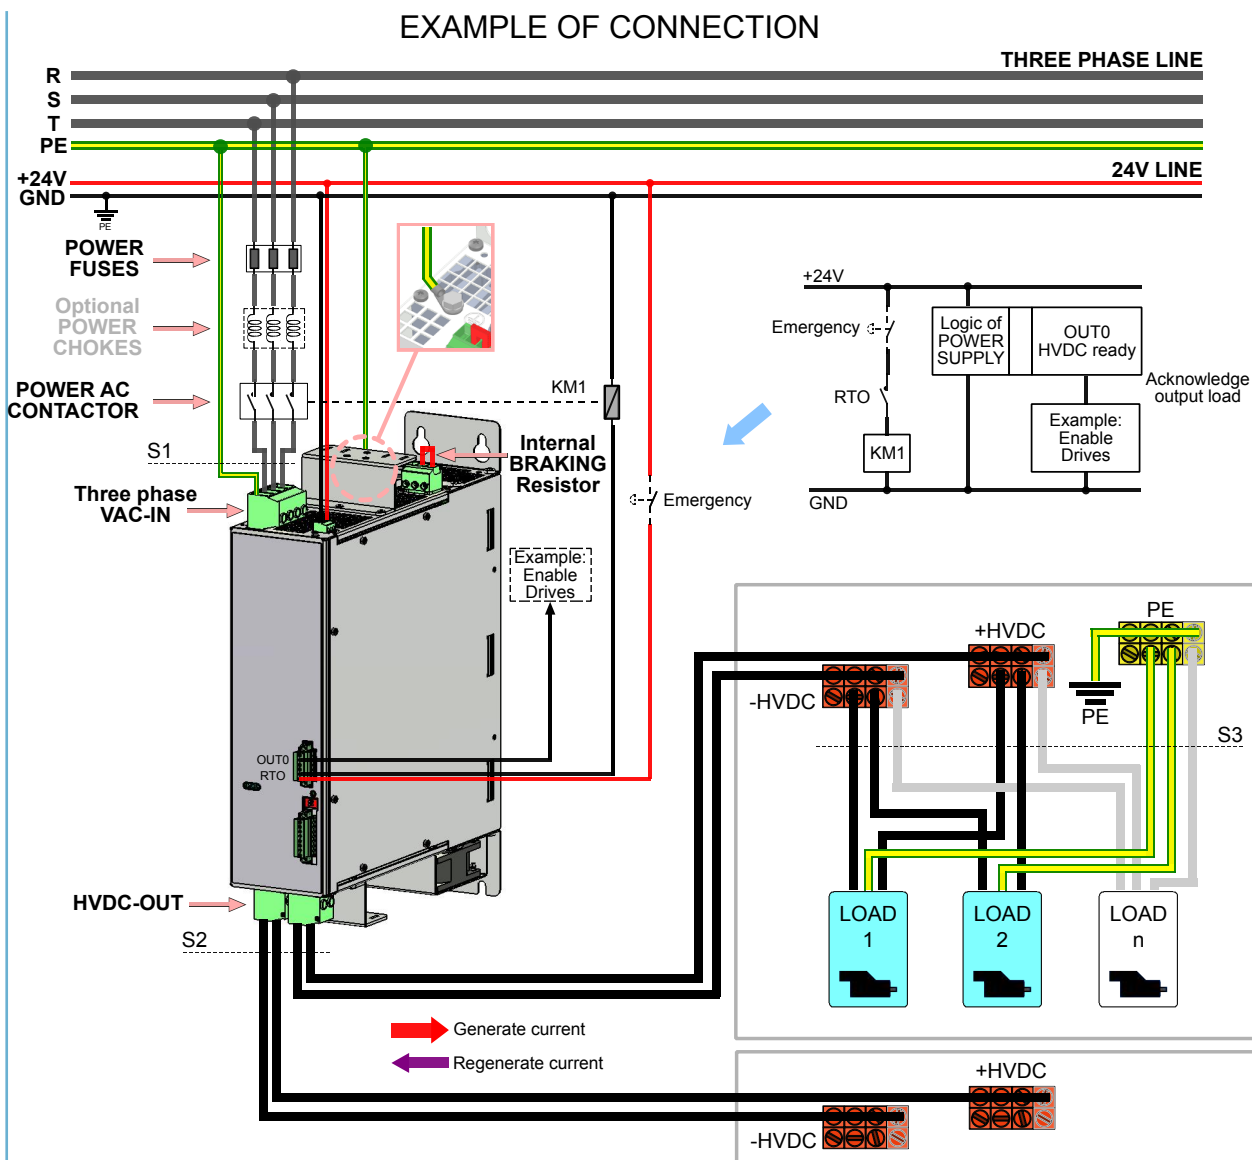

Figure 7.1. Connection scheme from line to load.
**Table 7.1. Minimum conductors section with default current values (CE), referring to *Figure 7.1***
**Table 7.2. Conductors minimum section with maximum current values (CE), referring to *Figure 7.1***
**Table 7.3. Minimum conductors section with default current values (UL), referring to *Figure 7.1***